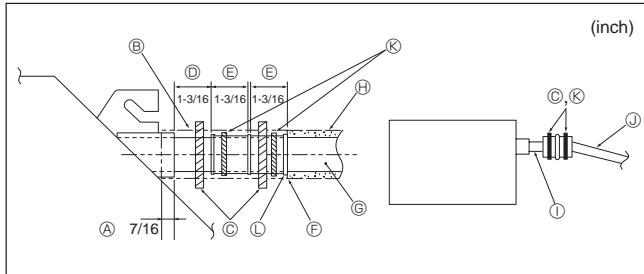

Fig. 5-6
- ① O. D.  $\phi 38$  mm, 1-1/2 inch PVC TUBE for grouped piping. (9 mm, 3/8 inch or more insulation)
1. Connect the drain socket (supplied with the unit) to the drain port. (Fig. 5-6) (Affix the tube using PVC adhesive then secure it with a band.)